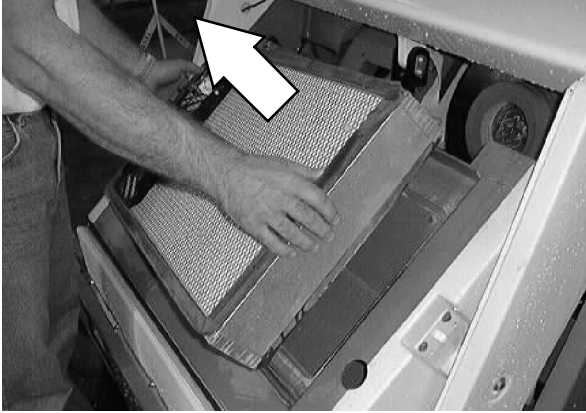

FIG. 3
3. Lift the dust filter element from the hopper. Refer to Fig. 3.